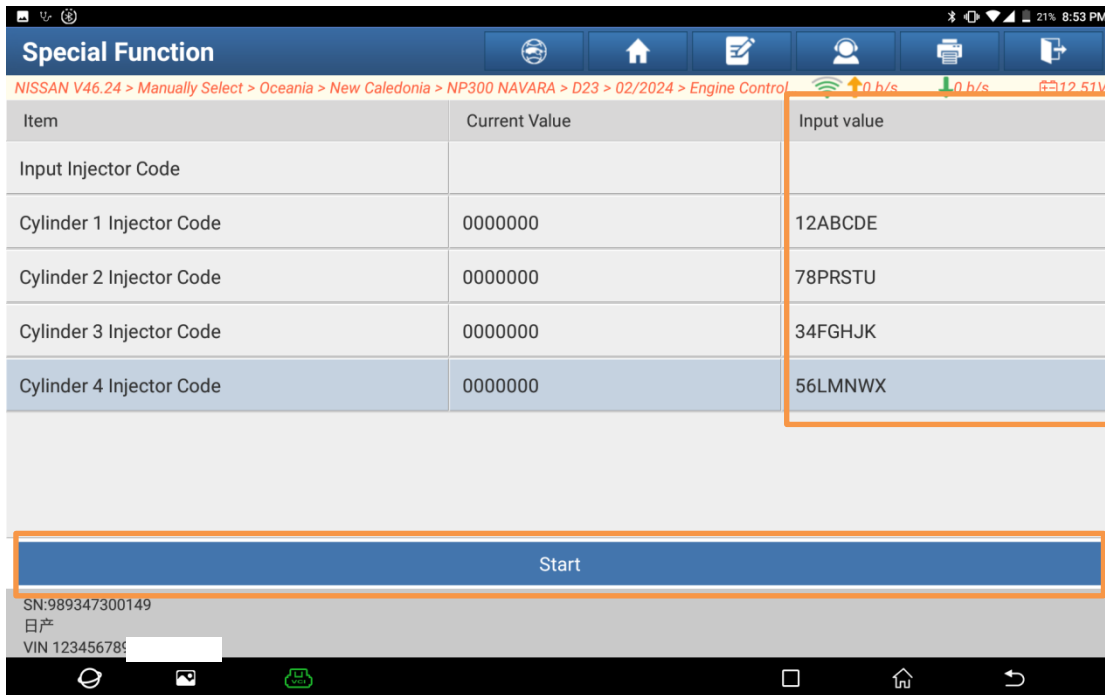

Figure 17
10. After entering all injector codes and confirming that the entered codes match those engraved on the injectors, click [Start] as shown in Figure 17 to write the codes.